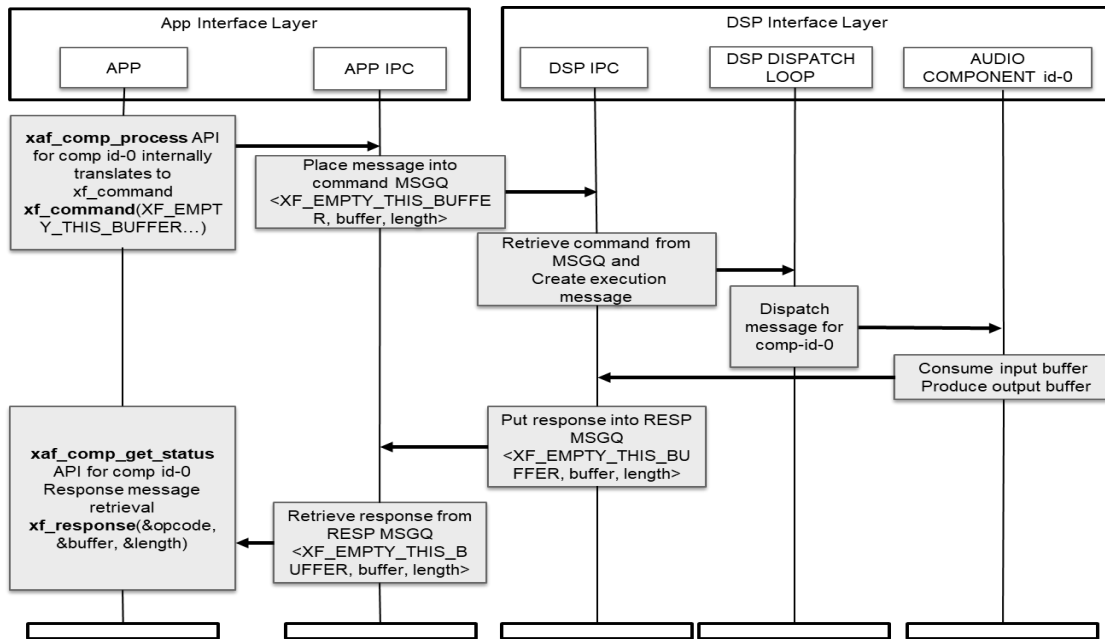
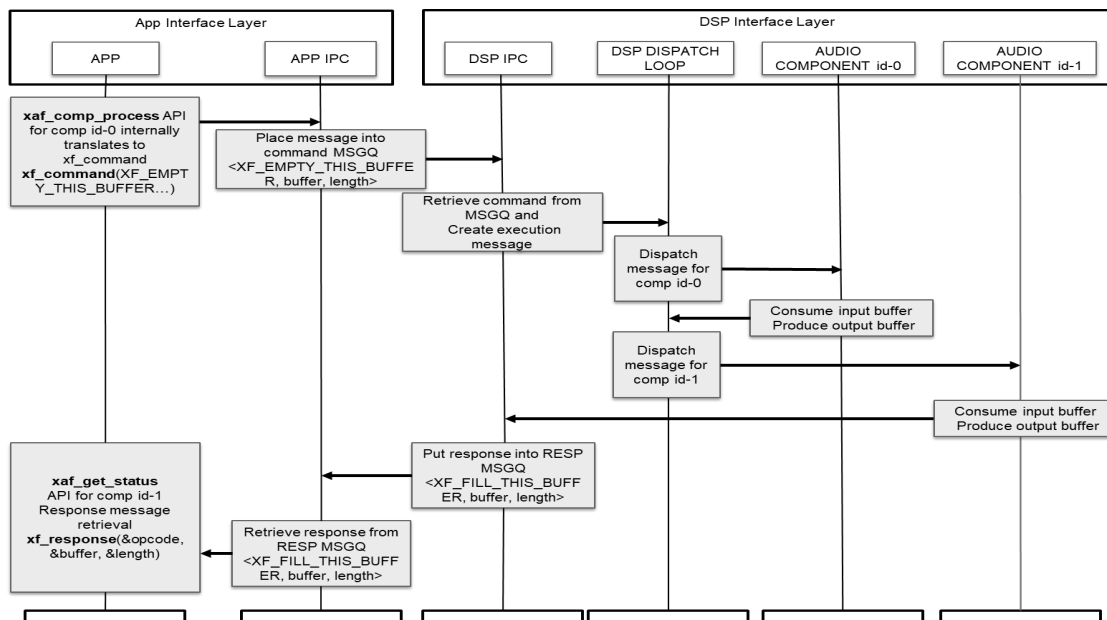

Figure 2-8 XAF Developer API xaf\_comp\_process Control Flow
Figure 2-9 XAF Control Flow Between Audio Components
XAF Developer APIs `xaf_comp_process` (see Table 3-14 for API details) and `xaf_probe_start` (see Table 3-18 for API details) are non-blocking or asynchronous. Specifically, the API call does not wait for response from DSP Interface Layer for command completion, rather the response from DSP Interface Layer can be queried for by `xaf_comp_get_status` API (see Table 3-15 for API details) at any later point of time. Figure 2-8 shows control flow sequence for these API calls where application feeds input data to audio component id-0. When audio component id-0 consumes the input data, it sends the response to the application.
Audio components connected with each other on DSP Interface Layer also use commands and responses to share data with each other through local message queue. Note, this local message queue is internal to DSP Interface Layer and different from IPC, the API between App Interface Layer and DSP Interface Layer. The audio component communication is shown in Figure 2-9 where the application feeds input data to audio component id-0, which is then connected to audio component id-1 and output of audio component id-1 is sent back to application.
**Note** For simplification and ease of understanding, Figure 2-8 and Figure 2-9 do not show all transactions.
This diagram explains how data is processed and communicated between components on different DSPs. Like command flow described in Figure 2-9, the source component on DSP-0 sends data to the destination component on DSP-1 (EMPTY\_THIS\_BUFFER) and after consuming this input data, the destination component returns the buffer back to the source component (FILL\_THIS\_BUFFER). Here the red dotted lines denote Inter-DSP communication.